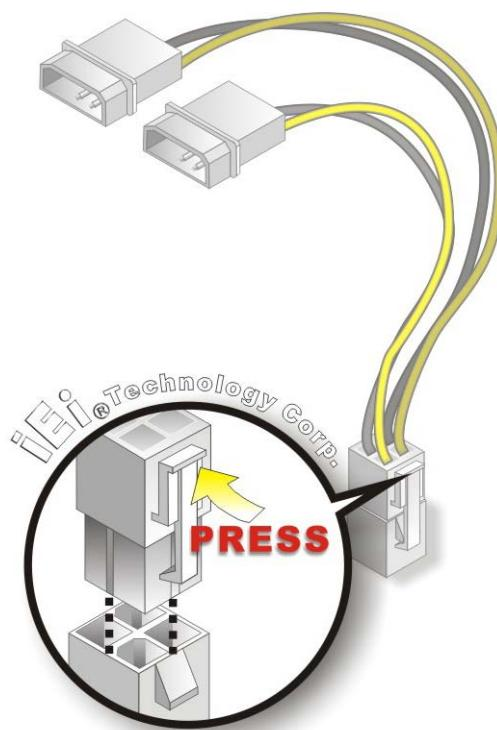

Figure 4-6: Power Cable to Motherboard Connection
**Step 2: Connect the Power Cable to the Motherboard.** Connect the 4-pin (2x2) Molex type power cable connector to the AT power connector on the motherboard. See Figure 4-6.